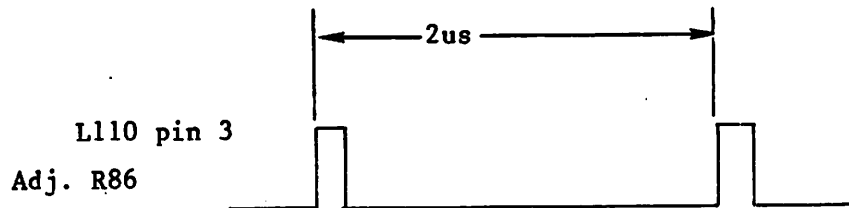

Figure 3-2
- A. Attach the channel 1 (oscilloscope) probe to L110 pin 3. Vertical deflection 2v/cm, Sweep rate .5us/div, Trigger internal positive slope on channel 1, Display channel 1 only. With the system reading sector 17385*, adjust R86 until a period of 2us is acquired (See figure 3-2).